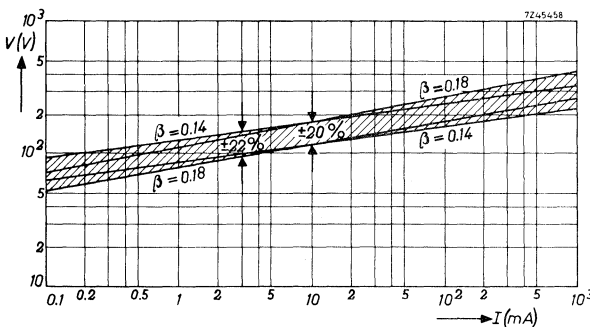

Fig. 10 Spread of voltage/current characteristic due to  $\beta$ -tolerance.
According to Eq. (1) it is possible to specify the electrical characteristics of a varistor by giving its  $C$  and  $\beta$ -values. The advantage of this specification is that only two parameters are used. The disadvantage is, however, that due to the inevitable tolerances on the  $\beta$ -values, the spread in voltages at low currents (in the working area) becomes very large. It is for this reason that the method of specifying by the  $C$ -value defined at 1 A is abandoned and we now specify the voltage across the varistor at currents which lie in the working area (1, 10 or 100 mA instead of 1 A). In this way it is possible to supply varistors which have much closer tolerances in the area where they are used, see Fig. 10.
Standard varistors are specified with a certain tolerance on voltage and a spread on  $\beta$ -value. It can be seen in Fig. 10 that due to the spread in  $\beta$ -value the tolerance on voltage may increase at currents other than the specified current at which the varistor is measured.